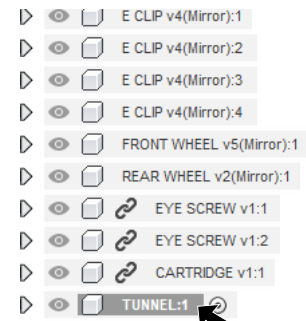

Fig. 2
Step 4. Rename New Component **Tunnel**, Fig. 2.